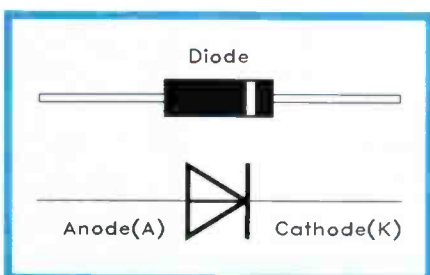

Figure 3. Diode symbol and connections (D1, D2).
b) Next, fit the two diodes D1 and D2. These are small tube-like components having leads at each end of their black bodies. They must be connected the right way round (In other words, diodes are 'polarised' components). Its 'polarity', which tells us the way in which it must be positioned, is indicated by a white (or silver) band close to one end of the body. The circuit symbol and connections for these components are shown in Figure 3. They should be fitted so that this band lines up with the band on the drawing of the diode on the guide-sheet.